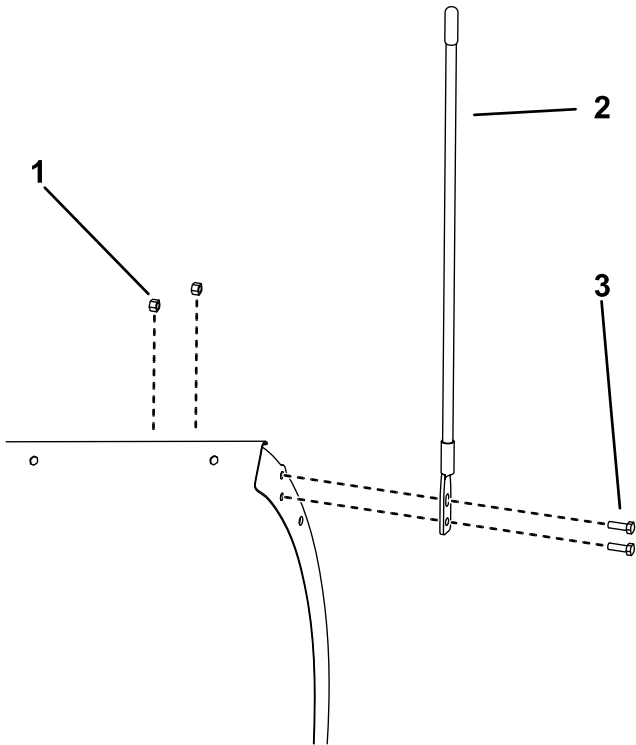

Figure 8
1. Attach the blade guides to the plow blade using 2 bolts (5/16 inch) and 2 self-locking nuts (Figure 8).